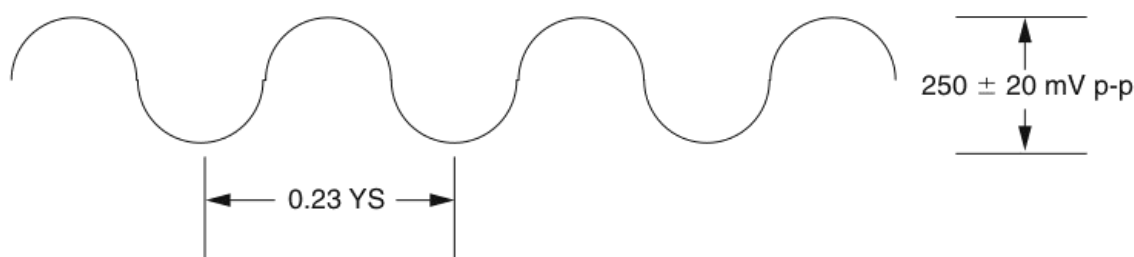

FIGURE 39-10 A typical 8-mm luminance (Y) record level confirmation.
Typical 8-mm luminance (Y) record current level adjust Connect the VCR section and test equipment, as described in the VCR adjustment set-up procedure. Place the power switch in the CAM position and place the Standby switch in the On position. Short pins 6, 11, and 14 of J1005 together. With no video signal applied to the camcorder, load camcorder with MP-type tape and place the unit in Record mode. Connect the scope to TP131 of CP1 CBA, and confirm that the record level is 250 mVP-P $\pm$ 2U mVP-P (Fig. 39-10). If the Y record current is incorrect, clean the video heads and check it again. If the level is not within the specifications, replace the upper cylinder.